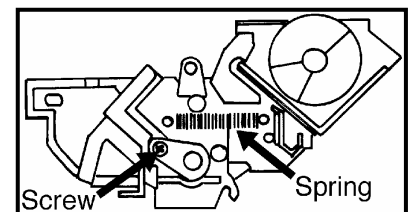

Figure 2
3. Remove the spring from the separator card end of the cartridge, and unfasten only one end of the spring on the other end of the cartridge (Figs. 2 & 3).
7. Pull back the shutter door and hold it open, then remove the screw holding the drum axle in and remove the drum axle being careful not to drop or dislodge the drum (Fig. 2). Now lift the drum by its small gear, twist clockwise and remove.